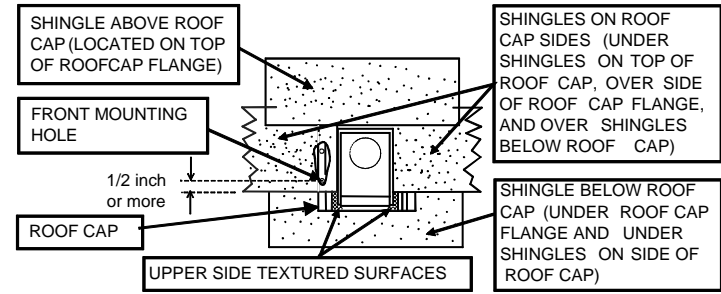

Figure 2. Shingle Placement
10. Cut or size the shingles that will cover the sides of the roof cap flange, making certain that the leading edge of the shingles will overhang the flange's front mounting nail holes or slots by at least ½-inch when the shingle courses are laid. (See Figure 2.) Make certain that, when installed, the shingles will fully cover the mounting nails in order to avoid future rust bleeding onto shingles. If any nail head or portion of a nail head cannot be covered, coat it with asphalt cement.
- c. Shingles should be positioned relative to the roof cap, as shown in Figure 2.
4. If not already accomplished, lay the shingle(s) that will lie under the front of the roof cap flange. (See Figure 2.)